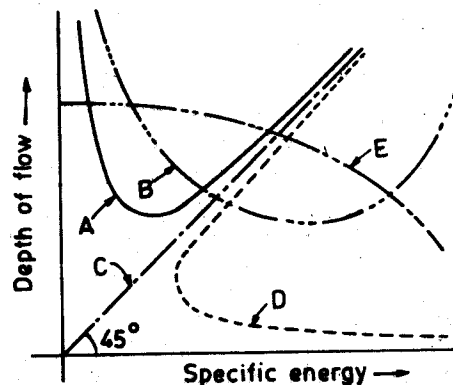

Fig. 19
48. Fig. 19 shows the specific energy curve versus depth of flow for a given discharge in an open channel. The correct curve is represented by curve